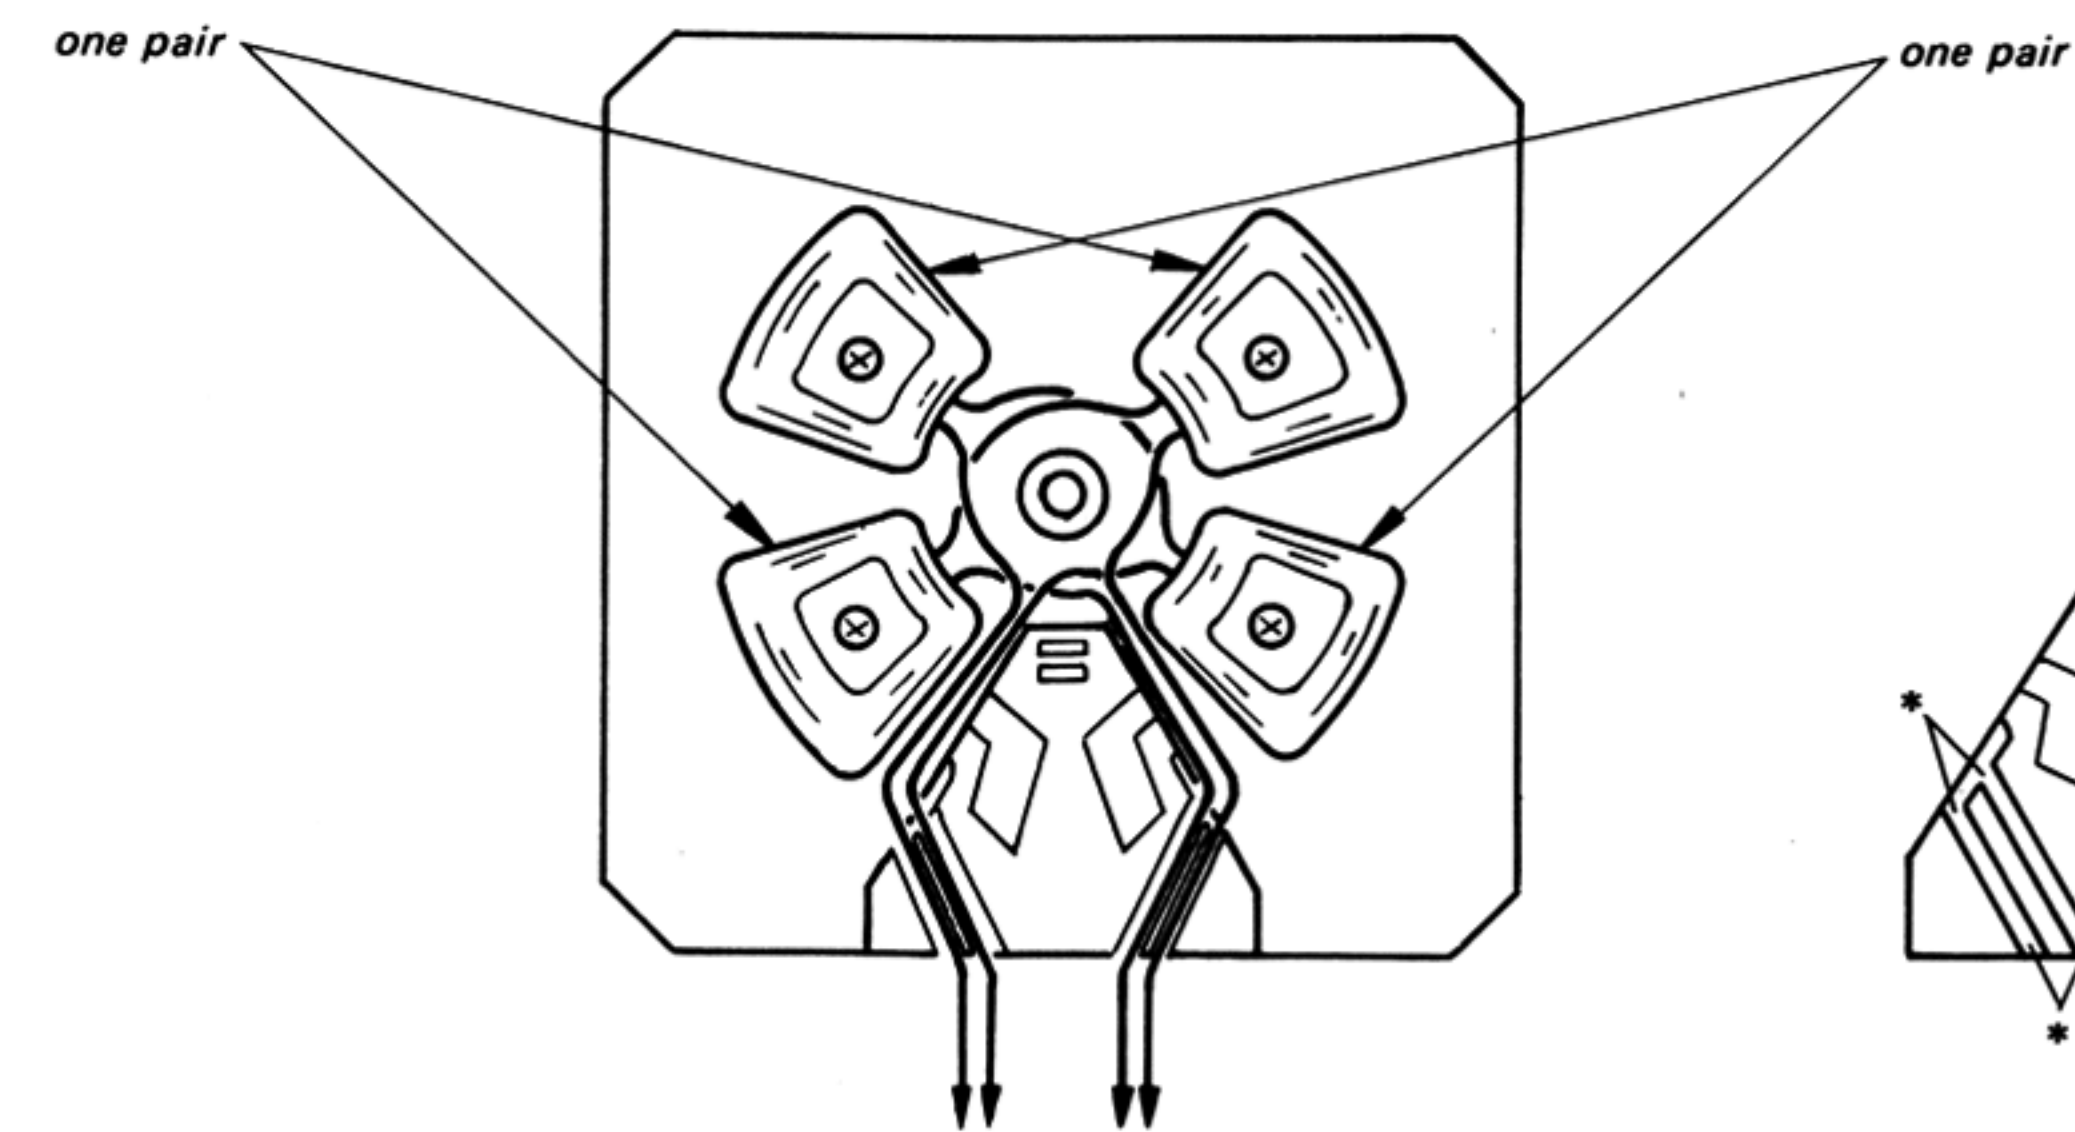

Fig. 5-4
- b. Lay the leads of the coils as shown in Fig. 5-4 and fix the leads in the slot marked by \* in Fig. 5-5.